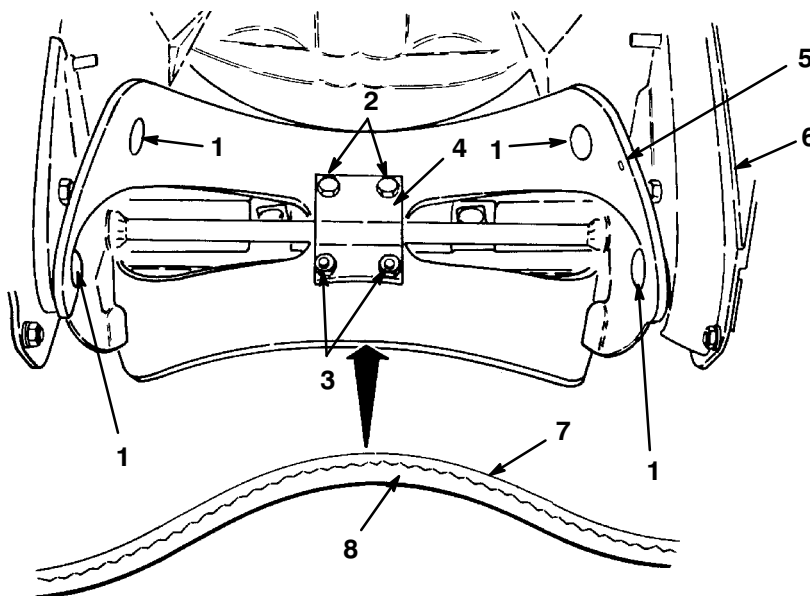

Figure 15
1. Remove four torx screws, two cap screws, and six locknuts that secure the blade to the rotor shaft assembly (Fig. 15).
2. Slide the blade out from between the blade supports (Fig. 15).
1. Examine a new rotor blade edge for the difference in layer thickness (Fig. 15). Some rotor blades have a part number on the thick side of the blade.
- Install the rotor blades with the thick layer on the **inside** of the curve. (Fig. 15). If you do not install the blades properly, the blades may be out of balance and cause the snowthrower to “hop” or “bounce.”
4. Position the screw heads on the thick layer side of the blade (Fig. 15).
5. Curve the blade and secure it with the remaining four torx screws and locknuts, positioning the screw heads on the thick layer side of the blade (Fig. 15).